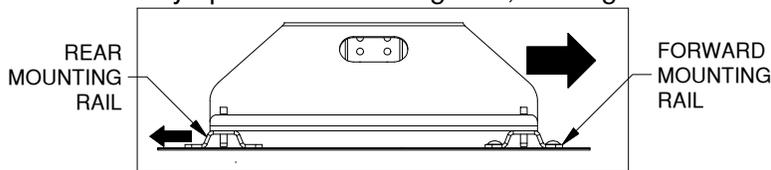

FIGURE C2: Side view of RV base and mounting rails.
2. **IMPORTANT:** Before drilling rear mounting holes pull the RV base towards the cab of the truck and push the rear rail towards the rear of the truck to correctly space the mounting rails, see Figure C2.